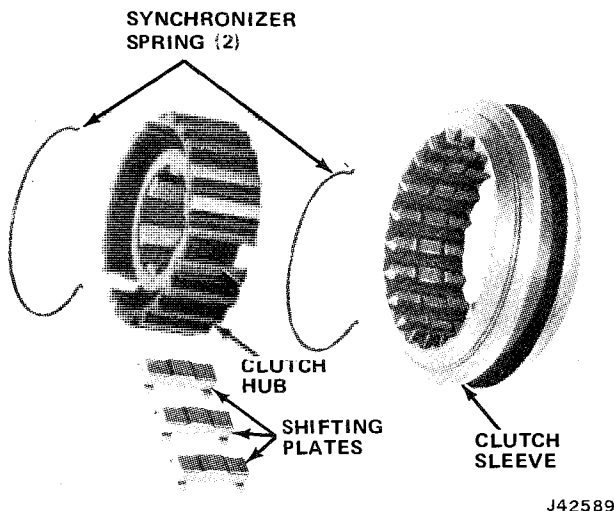

Fig. 2B-26 Second-Third Synchronizer Assembly
(7) Remove synchronizer spring from first gear synchronizer assembly (fig. 2B-27). Mark synchronizer sleeve and hub for assembly reference and remove sleeve and shifting plates from hub.